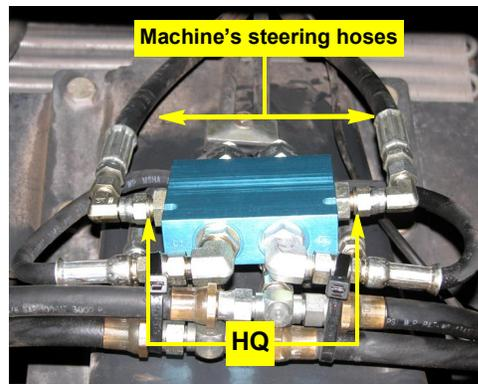

Figure 6d: Machine's steering hoses connected to 'V' ports of counterbalance valve
- d. Connect the machine's steering lines (disconnected at step 6a) to fittings **HQ** in the 'V' ports of counterbalance valve **HP** (Figure 6d).